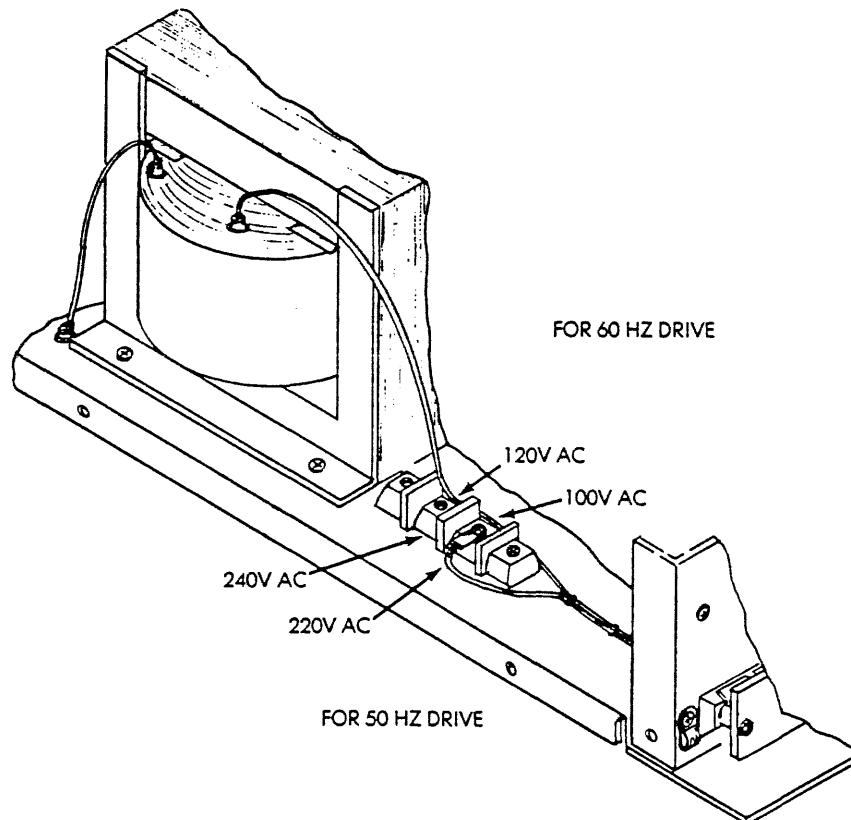

Figure 10-1. SI 9784 AC Voltage Selection, 50/60 Hz
- b. On the right side of the transformer is a small terminal strip labeled INPUT. A white wire fastened to the terminal strip by a screw can be positioned in one of two locations labeled AC100V and AC120V (Figure 10-1).